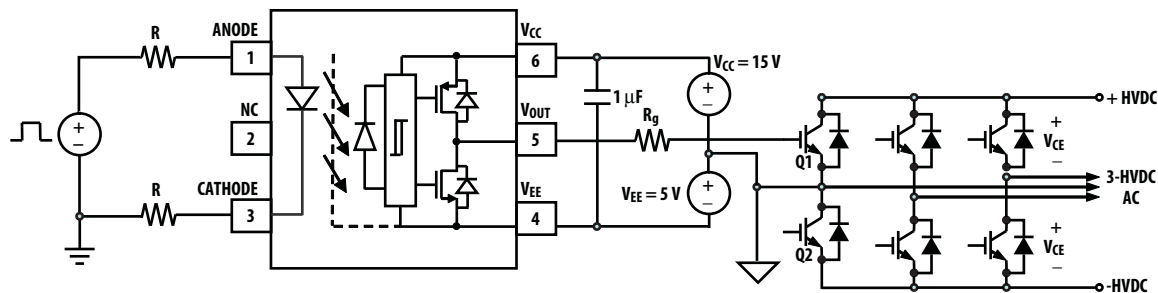

Figure 28. Recommended application circuit with split resistors LED drive
The recommended application circuit shown in Figure 28 illustrates a typical gate drive implementation using the ACPL-P343. The following describes about driving IGBT. However, it is also applicable to MOSFET. Designers will need to adjust the V_{CC} supply voltage, depending on the MOSFET or IGBT gate threshold requirements (Recommended $V_{CC} = 15\text{ V}$ for IGBT and 12 V for MOSFET).
Step 1: Calculate Rg minimum from the I_{OL} peak specification. The IGBT and Rg in Figure 28 can be analyzed as a simple RC circuit with a voltage supplied by ACPL-P343/W343.
The ACPL-P343/W343 includes a Propagation Delay Difference (PDD) specification intended to help designers minimize “dead time” in their power inverter designs. Dead time is the time period during which both the high and low side power transistors (Q1 and Q2 in Figure 28) are off. Any overlap in Q1 and Q2 conduction will result in large currents flowing through the power devices between the high and low voltage motor rails.